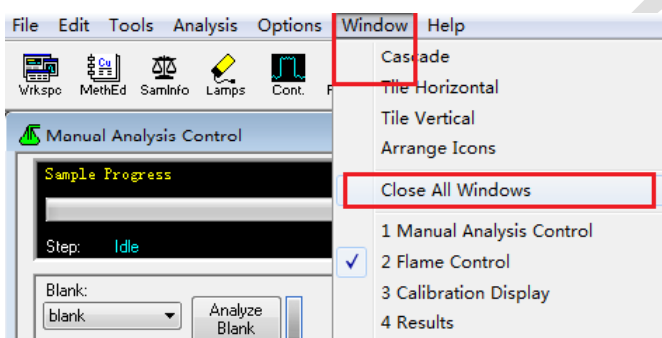

Fig. 26
3.4.7 Click on **window > close all windows** (fig.26).